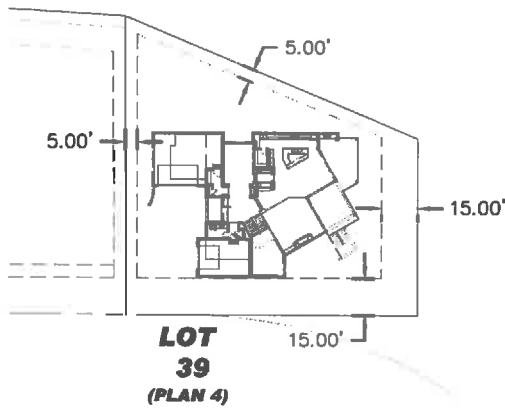

Figure 7b
- Lot 39 the setback from the NW lot line shall be the side setback and the setback from the NE lot line shall be the rear (see figure 7b & 7c).